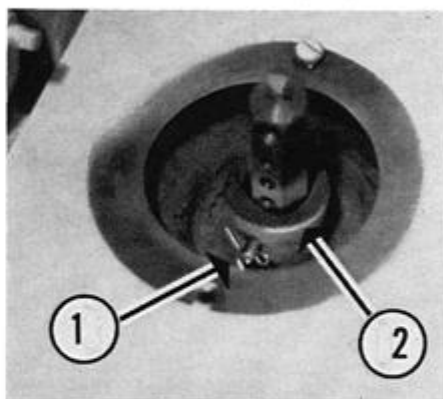

Figure 11
2. Remove the cotter key from the end of the Height Adjustment Pin, 1 in Figure 11. On the center and right Blades (center and right as you stand at the Handles) the cotter key and Pin are accessible upon removal of the Spindle Covers. However, to gain access to the left Blade cotter key and Pin, reach under the left Belt Guard. An alternate method is to remove the entire left Belt
4. There are six holes in the Shaft (exclusive of the large hole in which the screwdriver was placed) which regulate the cutting height. The topmost hole sets the cutting height at 1½ inches from the ground, the next at two inches from the ground, and so on in ½-inch increments to a maximum cutting height of four inches. Line up the hole corresponding to the desired cutting height with the holes in the Shaft Housing, 2 in Figure 11, and insert the Height Adjustment Pin into these. Then insert the cotter key in the end of the Pin.